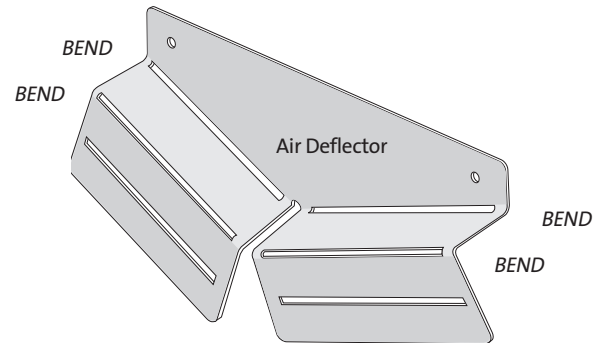

Figure 19. Air Deflector orientation.
2. Attach the Air Deflector: See figs. 19 and 21 /#3.
Use pliers to bend back the long, vertical flange to allow the bracket to fit flush against the back of the stove. (Fig. 19 and 21 /#2) to the two center studs on the back of the stove, oriented as shown. Secure with two M6 flange nuts.